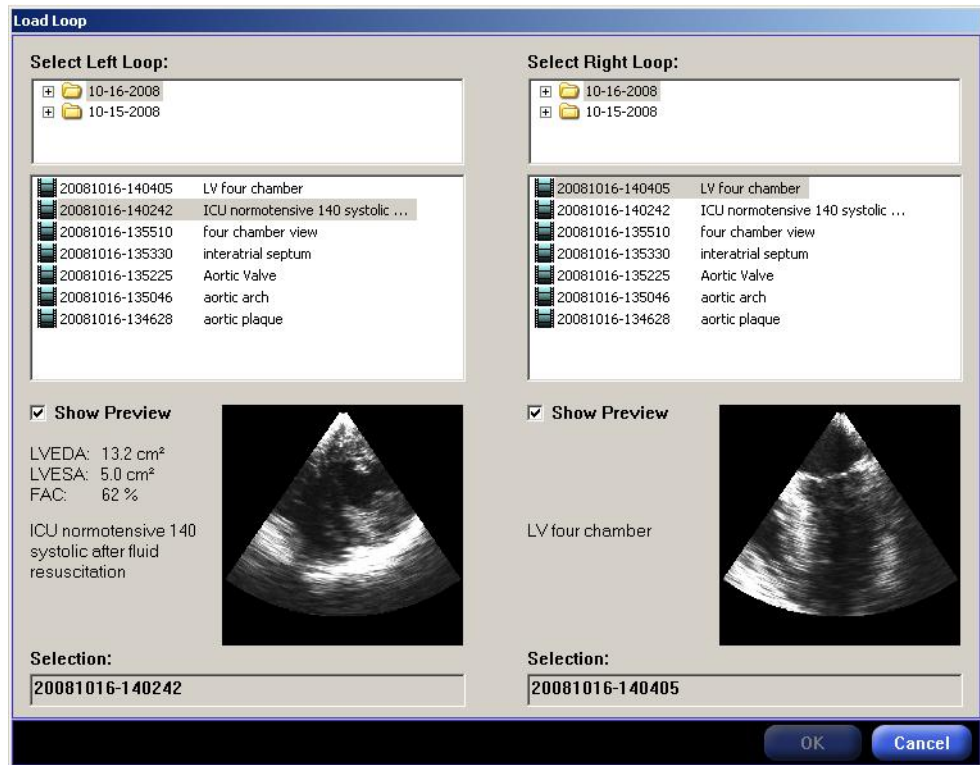

Fig. 71 Split View mode – loading two cineloops
- 2 When the Load Loop window is displayed, select a loop from the left and the right pane, as shown in Figure 71.